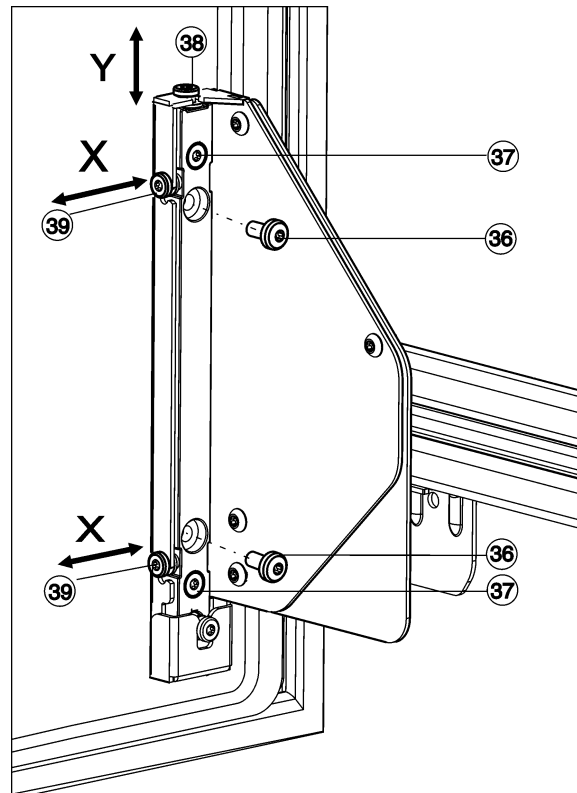

Fig. 27
- Unscrew and remove the screws Fig. 27 (36).
- ▷ Dispose of the screws Fig. 27 (36), they are no longer needed.
- Just loosen the screws Fig. 27 (37) by 1 to 2 turns.
- Turn the adjusting screw (38). Clockwise: for moving the door upwards by 4 mm max. Anticlockwise: for moving the door downwards by 2 mm max.
- Re-tighten all the screws Fig. 27 (37).
- If the screws Fig. 27 (36) are still present, unscrew and remove them.
- Turn the adjusting screws Fig. 27 (39) according to the lateral adjusting direction wanted.
- After having made the lateral adjustment, re-tighten the screws Fig. 27 (37).